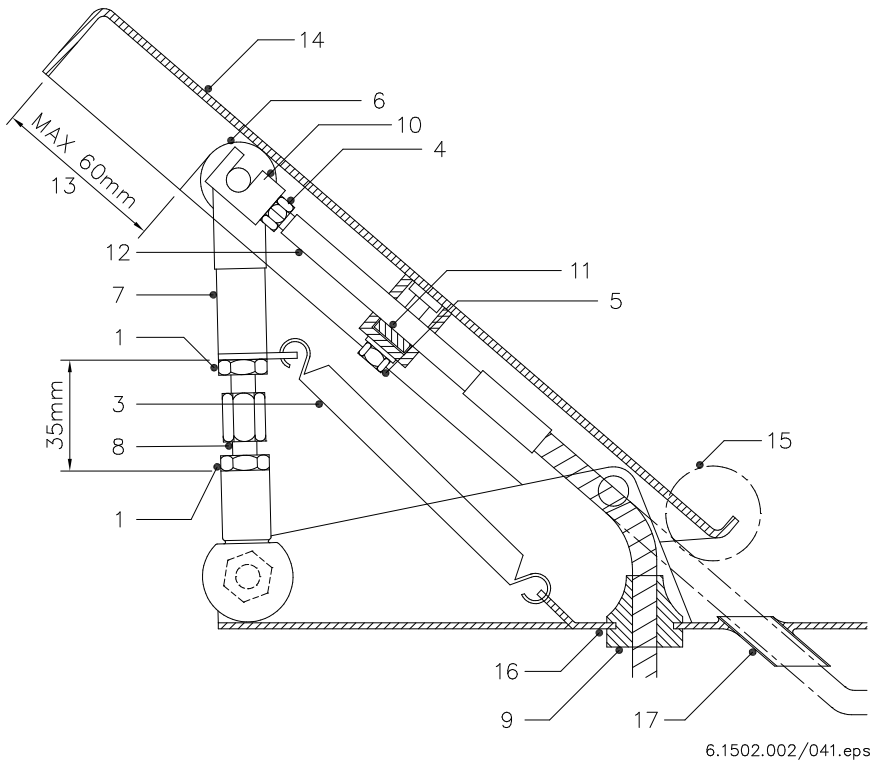
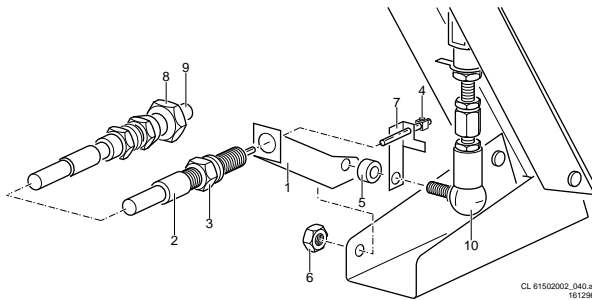

Figure 1 Accelerator pedal for left-hand drive coaches
Figure 3 Accelerator pedal fitted with manual throttle option
As from chassis number 6003860 the cable is more in line with the pedal and no grommet is used, but a small guide pipe which is welded to the chassis. The throttle cable must be run through this pipe, after which it must be cemented down with butyl cement; see Figure 1 {17}.
10. The distance of 40, 50 or 60 mm is measured between the pedal and the outer side of guide roller {6}; see Figure 1 {1}.
7. Slide a plastic sleeve over spring {3}; see Figure 1. The length of the sleeve equals the length of the spring in its relaxed state. This sleeve makes sure that clamp {4} (see Figure 3) will not be caught in the spring when the accelerator pedal is normally pushed down.